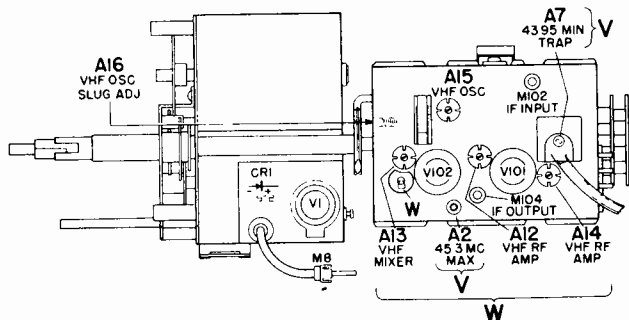

Figure 38. Top of Tuners, Showing VHF Adjustment Locations.
- Connect oscilloscope to test point "W" on tuner (figure 38). Keep scope leads away from chassis.